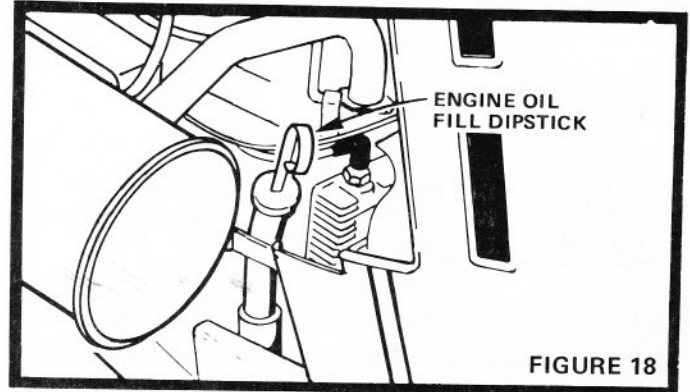

FIGURE 18
- Refill Engine Oil (Fig. 18). In summer use S.A.E. 30 (SC, SD or SE) Oil. In winter (below 32°F.) use S.A.E. 10W30 (SC, SD or SE) or 10W40 (SC, SD or SE). In extreme cold (below 0°F.) use S.A.E. 5W20 (SC, SD or SE). Capacity is 3 - 1/2 pints. NOTE: DO NOT OVER-FILL.